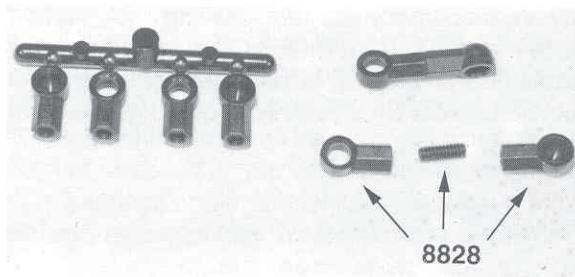

Fig. 35
❑ **Fig. 35** Go back to bag #8-3 and remove the parts tree containing the #8828 molded roll bar ball cups, and two #8828 4-40 x 5/16" socket set screws. If you look at the ball cups you will find two with an open cup and two that have a closed cup. Thread one open cup and one closed cup onto each of the 5/16" set screws. Do your best to thread them on equally and then make sure they go on until they bottom out against each other. This will now become the adjustable pivot link. Because of their small size you can use your .050" Allen wrench to thread one cup onto the set screw. After one is installed thread on the other one until it bottoms out.
5) (Fig. 38.) Now go back and pick up the #8828 adjustable pivot links (we assembled them in fig. 35) and snap the closed ball end cup onto the ball end of the front suspension arm, and **6)** the open ball end onto the roll bar pivot. **7)** After both adjustable links have been installed we will need to set the roll bar pivot position. Looking at the front end assembly from the front of the car, adjust the pivot balls so that both of the adjustable links are close to vertical. We want to make sure that the pivot balls are not binding but still remain close to vertical. **8)** Once they are lined up correctly and pivoting freely, tighten the set screws. **9)** Make sure that the spacing on both roll bar pivots is the same. If the spacing is not the same, the car's handling characteristics will be different for both right and left turns.